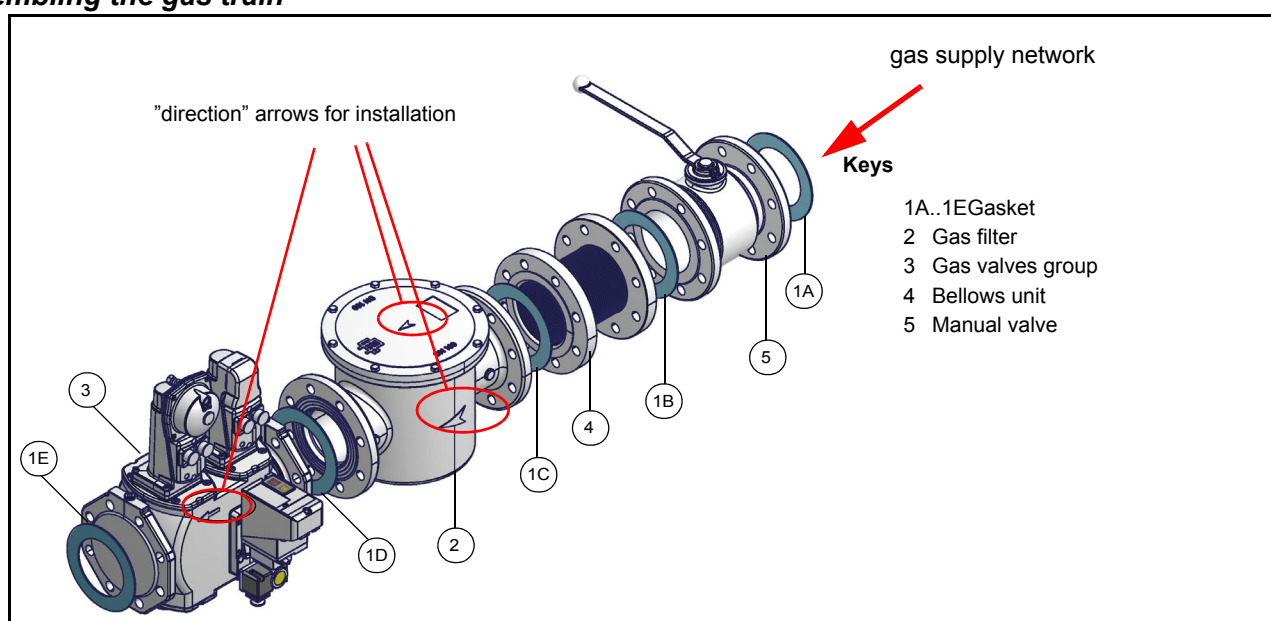

Fig. 1 - Example of gas train
**ATTENTION:** once the gas train is mounted according to the diagram on Fig. 1, the gas proving test must be performed, according to the procedure set by the laws in force.